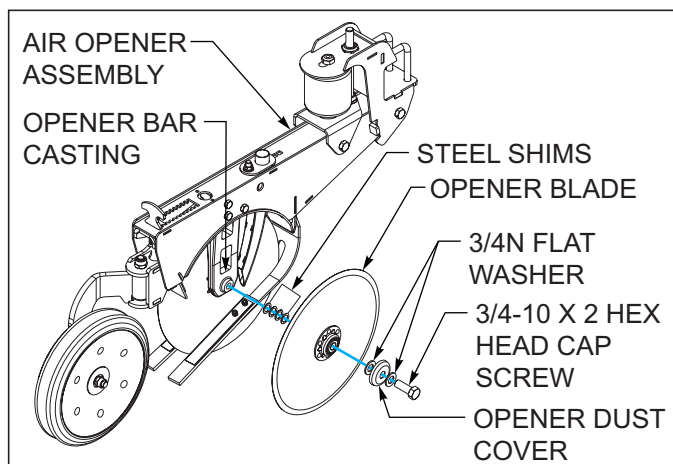

Figure 4-32: Opener Blade Adjustment
3. The pinch point is adjusted by adding/removing shims from between the opener blade and opener casting **See Figure 4-32**. When removing shim(s) from between the blade and the casting, move them to the outside of the blade and place under the dust cap. Do not discard shims. This will keep track of the shims and not change the length of bolt required. Adjust the shims as equally as possible so there are similar number of shims under the right and left blades.